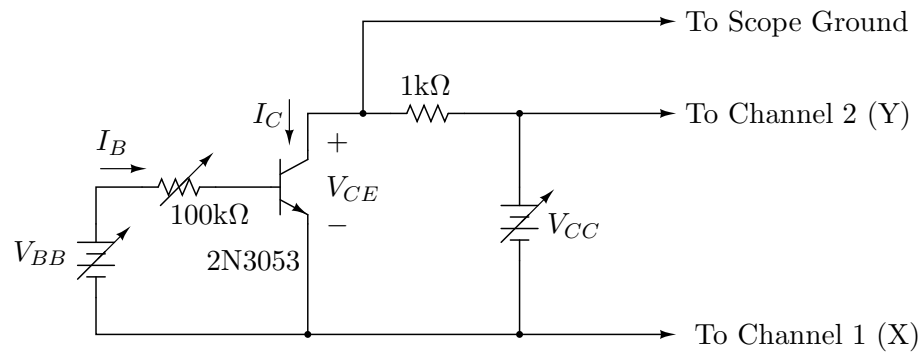

Figure 2: Circuit used to determine bipolar junction transistor characteristics.
1. *Collector i - v Characteristics of a BJT* – Connect the circuit shown in Figure 2.